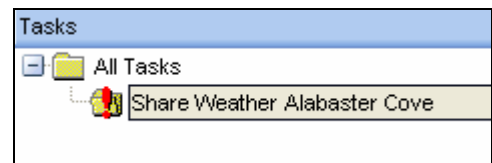

Figure 12.1.5
3. Once you are satisfied with the task name click on the **OK** button. This will add the task to the “**Tasks**” window (Figure 12.1.5).